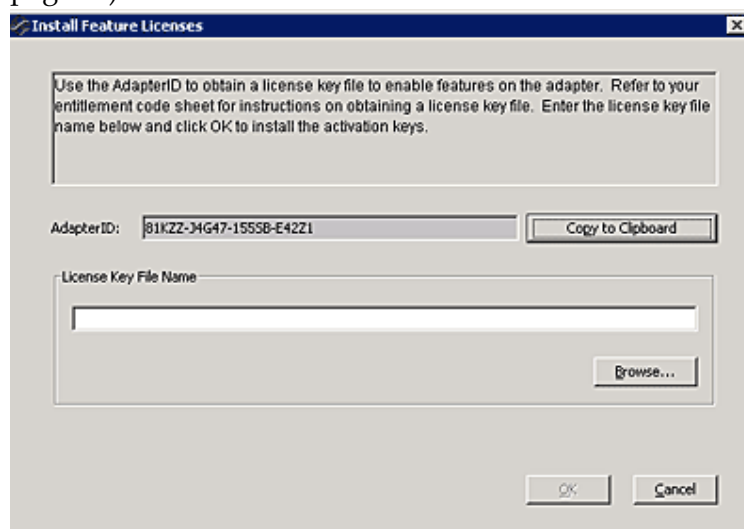

Figure 7-12 Install Feature Licenses Dialog Box
2. From the Adapter Information tab, click **Install Feature Licenses**. The Install Feature Licenses dialog box appears displaying the AdapterID (Figure 7-12 on page 81).
5. Using the Install Feature Licenses dialog box (Figure 7-12 on page 81), enter the name of the License Key File (or click **Browse** to use a file browser to find the file) and click **OK**.